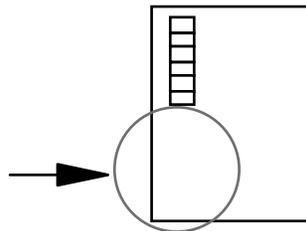

Figure 4-8. Film Position
6. Slide the film into position so that the measurement area (aperture) on the densitometer is between the film edge and step 1, in the base+fog region (see Figure 4-8).